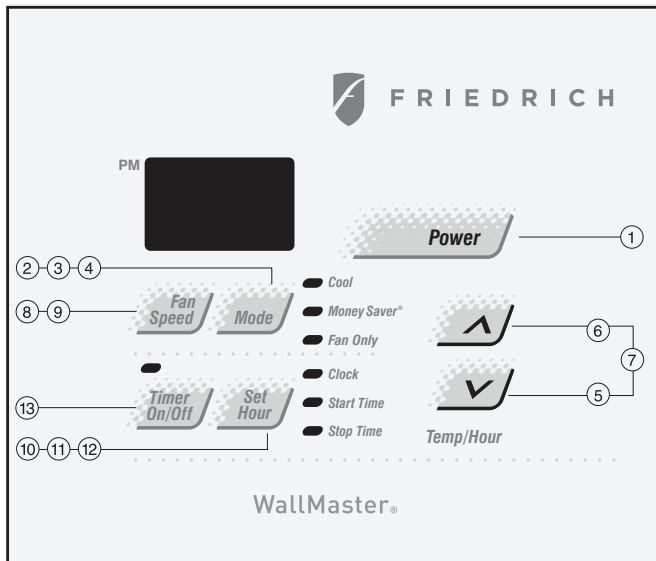

Figure 1: WS Model cool-only control panel
1. Check the room temperature at the electronic control pad by pressing at the same time, the **Fan Speed** button and the **Temp/Hour ▲** button (see figures 1 and 2).